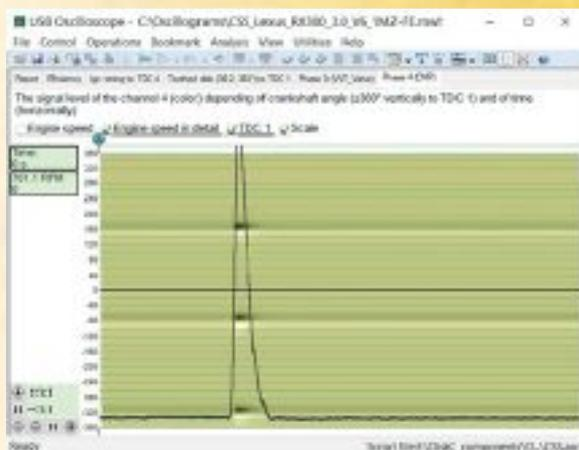

Figure 12: CKP/CMP relationship versus engine speed.
**Figure 12** on page 18 shows the CMP/CKP relationship versus engine speed. The problem is intermittent.